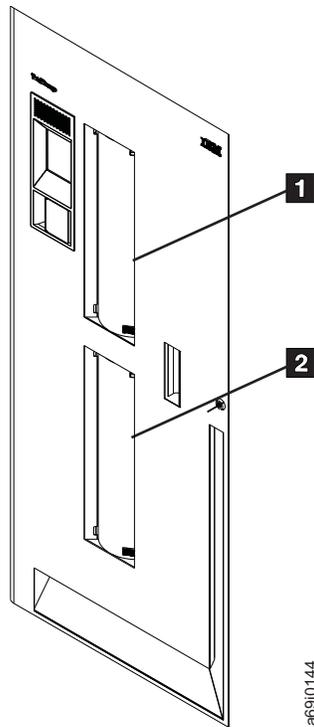

Figure 14. Storage slot addresses in the I/O stations of the TS3500 tape library. The door of a Model L22 or L52 frame is shown.
- An I/O slot address of F01,R05 means frame 1, slot 5 (fifth row from the top of the upper I/O station; see **1** in Figure 14 on page 47).